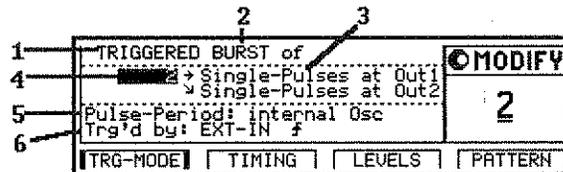

Figure 3-3. Typical TRG-MODE screen
- Select between Single and Double-pulses per pulse-period for each OUTPUT (See 3 in Figure 3-3):
- If the HP 81106A PLL/External clock is fitted, select the pulse-period source (See 5 in Figure 3-3):
- Select the number of pulse-periods per burst in the range 2 - 65536 (See 4 in Figure 3-3).
- Select between RZ and NRZ data pulses for each OUTPUT (See 3 in Figure 3-3):
- Single pulse-periods are triggered by (Trg'd by) an active edge at the selected arming source (See 6 in Figure 3-3):
- A burst of pulse-periods is triggered by (Trg'd by) an active edge at the selected arming source (See 6 in Figure 3-3):